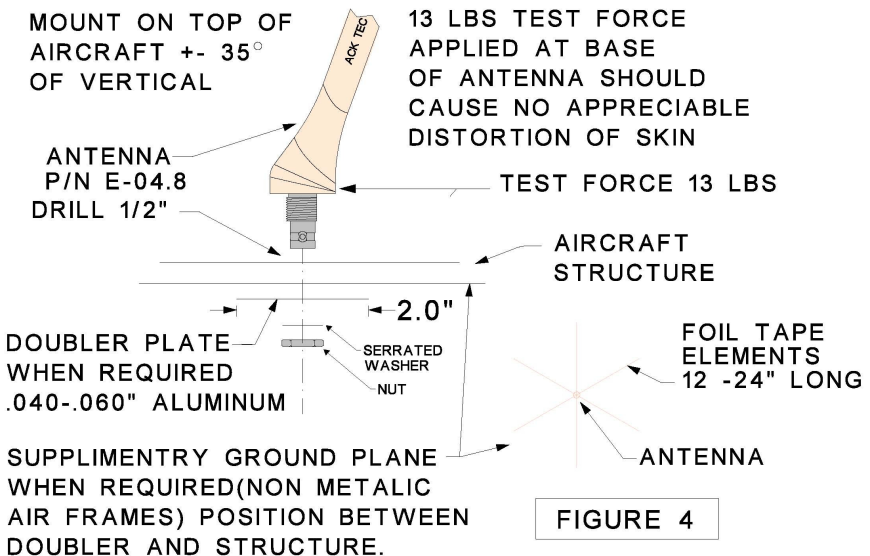

FIGURE 4
- 1.) Drill a 1/2" (13mm) diameter hole in the aircraft at the antenna mounting location (Fig. 4)
- 3.) If the antenna is being mounted on a non conductive portion of the airframe, a supplementary ground plane must be installed. The supplemental ground plane must have a minimum diameter of 24" however 48" will provide maximum power at 121.5 MHz and is recommended. The ground plane must be centered around the base of the antenna. This may be fabricated out of copper, or aluminum tape. The tape should be cut into six elements 12" long, and the tape elements should be evenly spaced, radiating in a circular pattern from the base mounting point of the antenna. (Fig. 4) Make sure all elements are electrically bonded to the base of the antenna. The tape may follow the contour of the fuselage. The metallic airframe of fabric covered aircraft may be used as the ground plane. When installing the antenna, make sure the base of the antenna is electrically bonded to the tubing frame.
- 4.) Assemble the antenna as shown in figure 4. Make sure the rubber washer that forms a moisture seal between the antenna base, and aircraft structure, is in place before installing the antenna. Also make sure the serrated locking washer is in place. If the aircraft skin at the mounting point is less than .060" thick when installing the P/N E-04.8 whip antenna, a 2" diameter doubler plate must be fabricated using .040" thick 2024, or 7075 T6 aluminum.